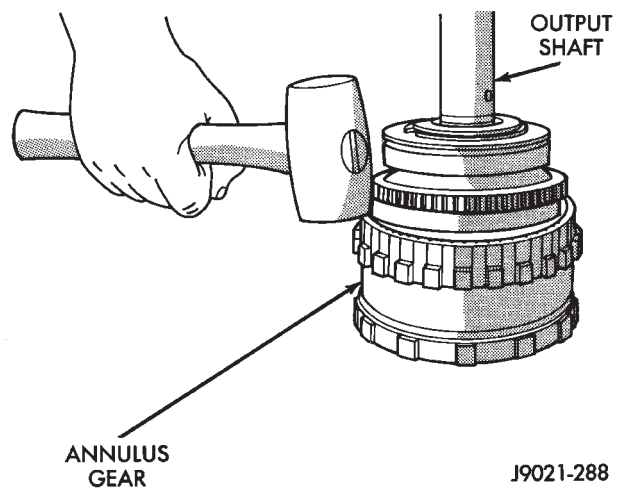

Fig. 33 Removing Annulus Gear
(24) Remove annulus gear from output shaft (Fig. 33). Use rawhide or plastic mallet to tap gear off shaft.